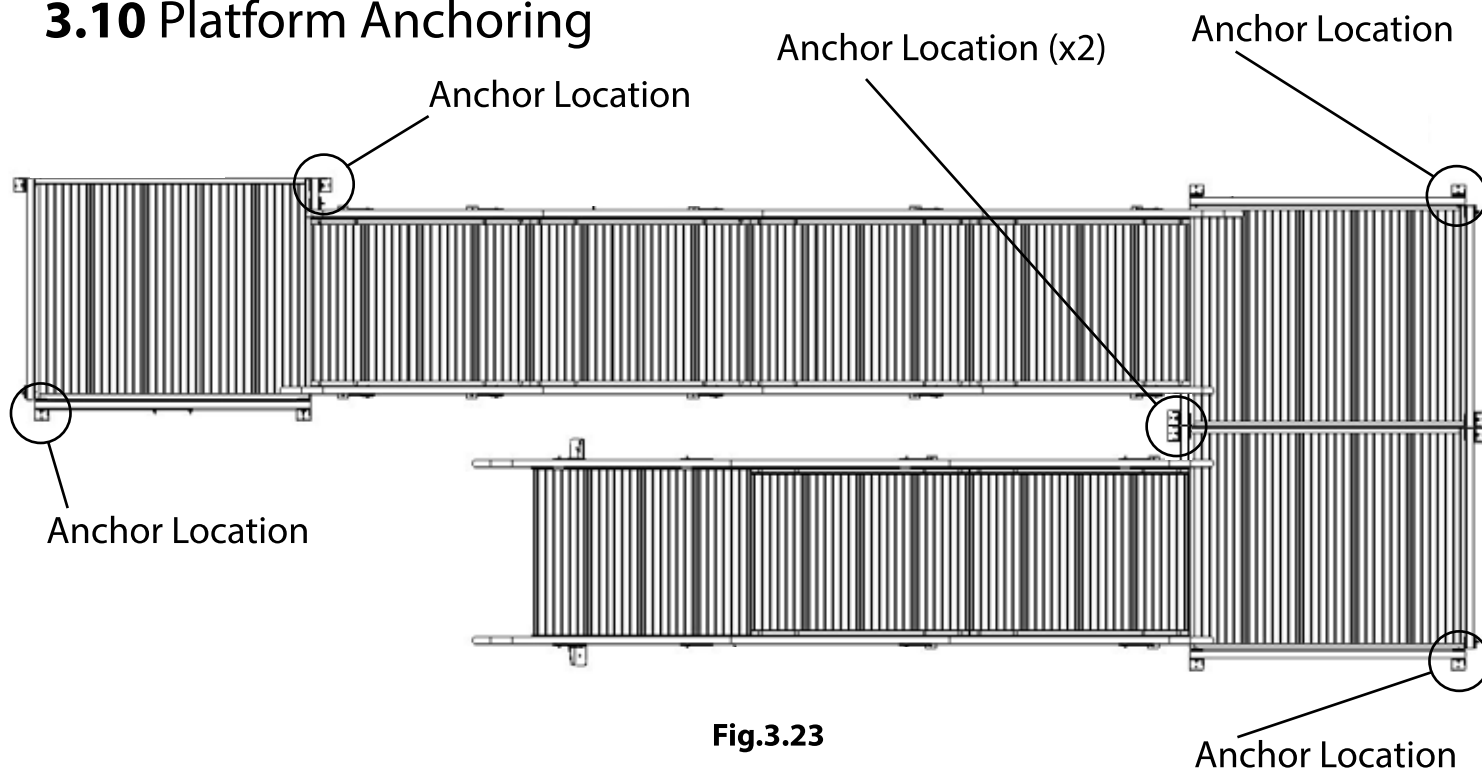

Fig.3.23
3.10 Platform Anchoring: Locate platform corners that will require anchoring as shown above (**Fig.3.23**). Platforms must have a minimum of one leg anchored on each of the two opposite sides. Switchback platforms require a minimum of four anchor points.